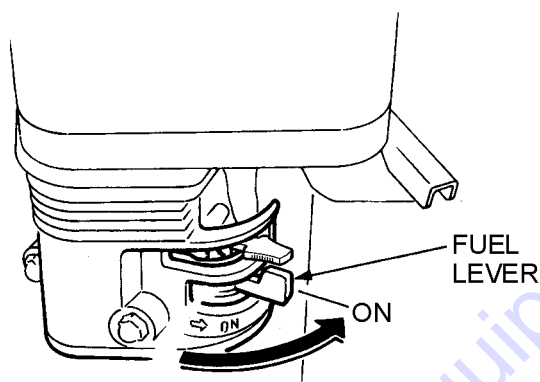

Figure 27. Engine Fuel Valve Lever (ON)
2. Place the engine fuel valve lever (Figure 27) in the "ON" position.